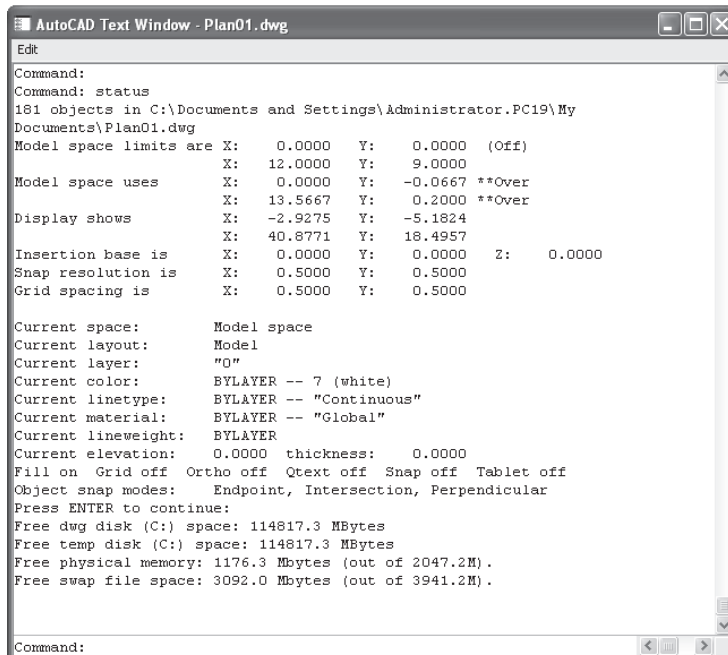

Figure 11.6
2. The Text window displays a listing of the current status of the drawing, as shown in Figure 11.6.